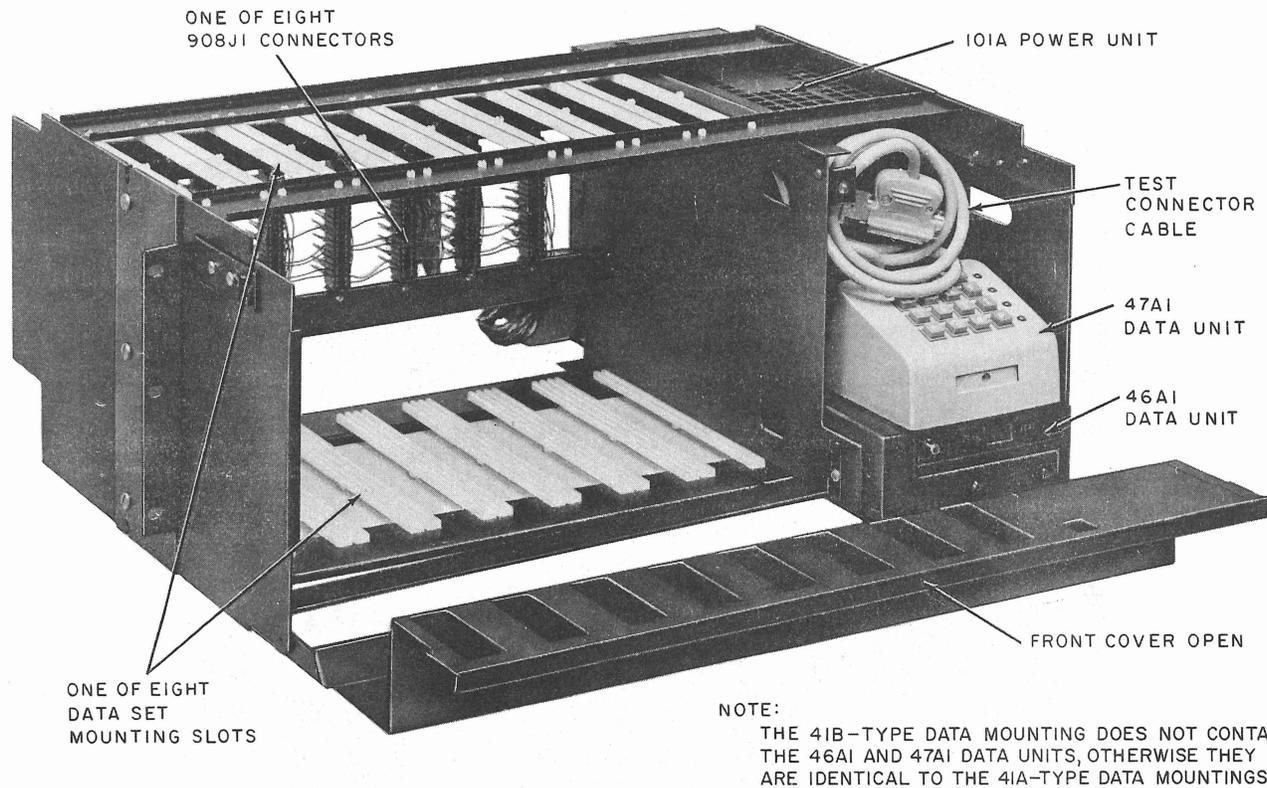

Fig. 4—41A3 Data Mounting With Front Cover Open
2.04 The 41A3 data mounting (Fig. 4) contains a test unit and is approximately 23 inches wide, 8-2/3 inches high, and 16-1/2 inches deep. It mounts on a 23-inch rack and weighs about 42 pounds. The 41A3 data mounting is supplied with a KS-14532-L16 power cord. The 41B3 data mounting has the same physical dimensions as the 41A3 data mounting and weighs about 38 pounds. The 41B3 data mounting is supplied with a P3BJ power cord. The P3BJ power cord consists of a Hubbel Twist-lock receptacle and a three-prong male plug. The 41B3 does *not* contain a test unit.